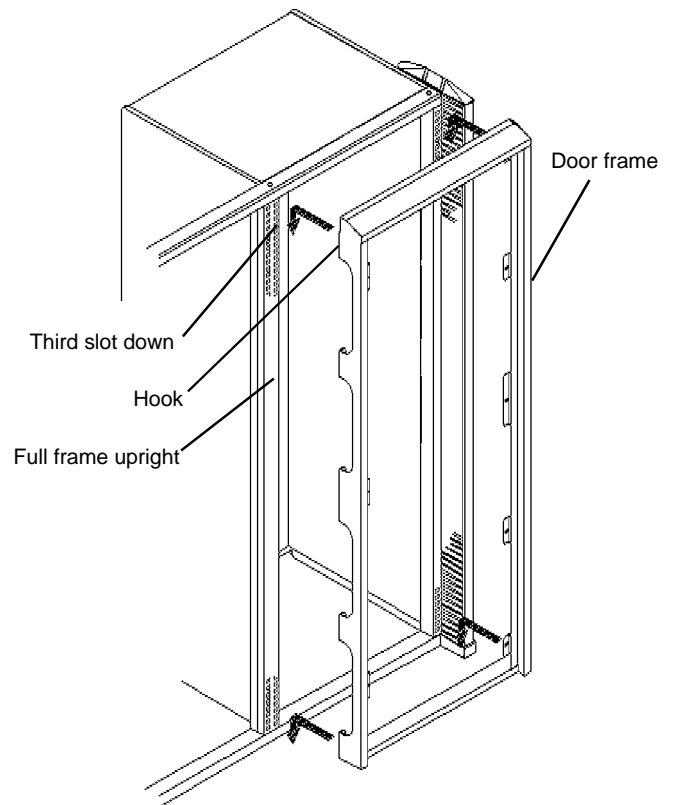

Figure 4
- Lift the Door Frame up and engage the hooks on the back of the Frame into the Full Frame Slotted Uprights. For the 84", 72", and 61" high "full height" Service Doors the top hooks should engage the third slot down from the top of each Upright. This will align the top of the Door Frame with the top of the Full Frame trim. For 38" and 24" high Service Doors, position the Door Frame so that the top of the Frame is even with the top of the LAN Locker which has been previously installed. See **Figure 4**.